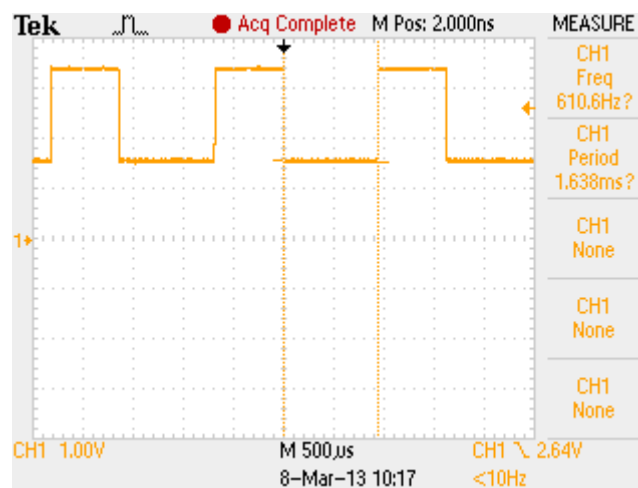

Figure 8: Trigger port 1
**Example:** MIN\_SAMPLE\_SIZE= 256 samples collected at a rate of 160kHz. Therefore you will get a BUFFER Ready status (PING or PONG) every  $(1/160\text{kHz}) * 256 = 6.25\mu\text{s} * 256 = 1.6\text{mS}$ . So you have 1.6mS to act on the 256 samples of data before the next buffer is ready. You can see this is verified by the scope shot in Figure 8.
The demo code as shipped is using the first test point, TRIGGER\_PORT1 to indicate when data is being processed by the filter. The trigger port is set and cleared at lines 320 and 442 respectively. Scope shot shown in Figure 8.